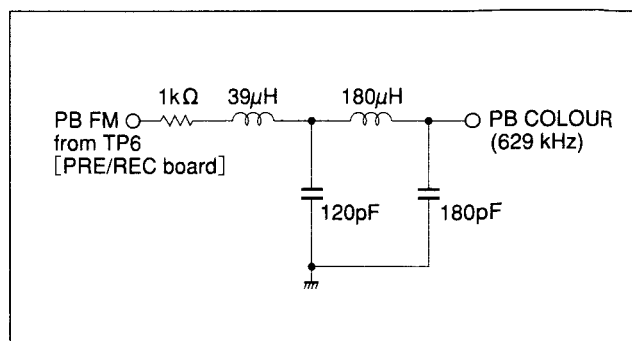
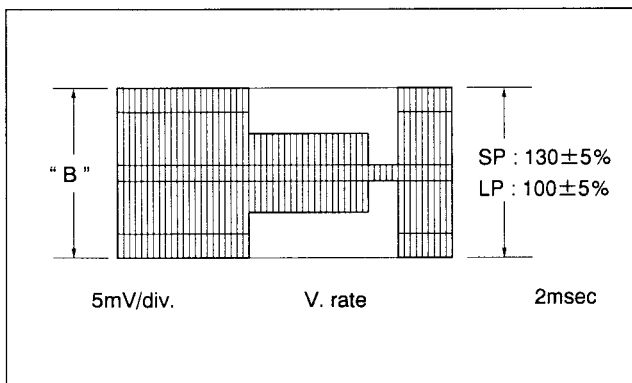

Fig. 3-4-7 LPF
Fig. 3-4-8 REC colour level
- (1) Use a LPF as shown in Fig. 3-4-7.
- (2) Playback the SP (LP) colour bar signal of MH-2H alignment tape.
- (3) Set the tracking to the Auto tracking off position by pressing the **///** button of the remote controller.
- (4) Adjust by pressing the TV PROG “-” or “+” buttons of the remote controller for maximum level of the colour waveform and make a note of the higher colour level “B”.
- (5) Press the STOP/EJECT button and eject the MH-2H alignment tape.
- (6) Set EVR mode by pressing “K” button of the presetting unit more than 2 seconds.
- (7) Set “A : 2” by pressing 2 numeric key of the remote controller.
- (8) Record a colour bar signal in SP (LP) mode, and playback recorded colour bar signal.
- (9) Before recording, adjust TV PROG “-” or “+” button of the remote controller so that the higher level channel becomes $130 \pm 5\%$: SP ($100 \pm 5\%$: LP) of the note “B” level during playback as shown in Fig. 3-4-8.
- (10) Set normal VCR mode by pressing “K” button again so adjustment data is memorized.